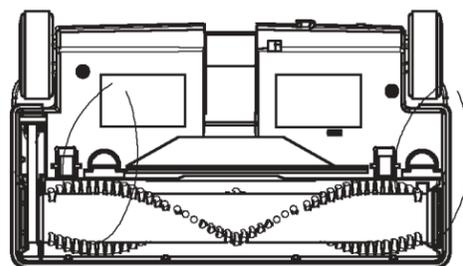

Figure 8
2. Insert a string around the brush roll close to the cogged belt. Pull both ends of the string upwards so that the brush roll disengages from the base (as shown in Figure 8). Similarly, disengage the other end.